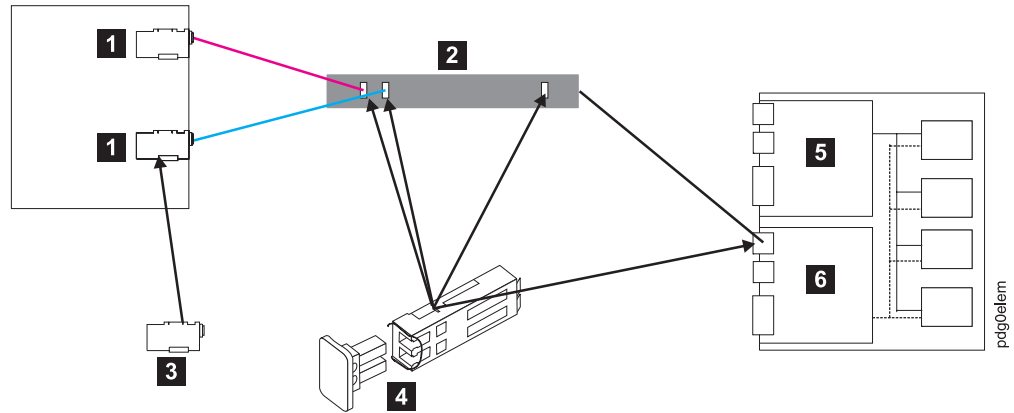

Figure 30. Path elements loop
3. To see more clearly what is involved, redraw the configuration showing the path elements in the loop, as shown in Figure 30.
Table 15. Description of Figure 30